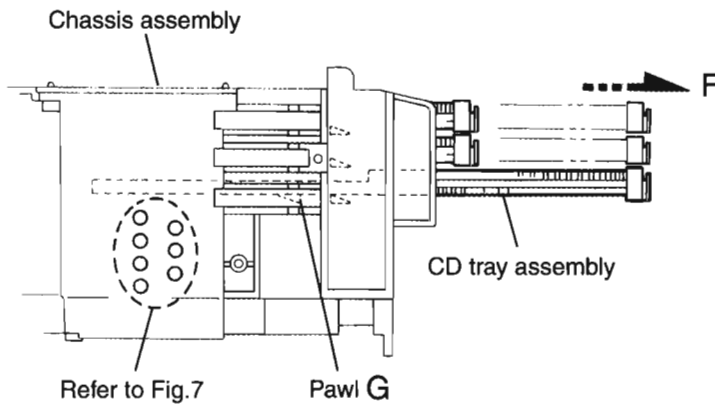

Fig.6
12. Make sure that the driver unit elevator is positioned as shown in Fig.6 from to the second or fifth hole on the left side face of the CD Traverse mechanism assembly.
(See Fig.6).